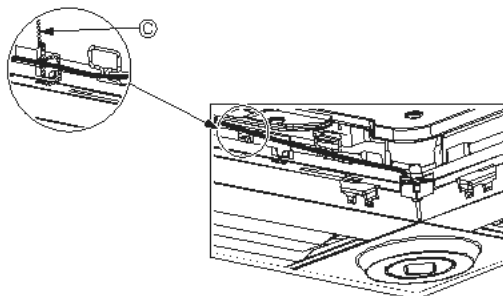

Fig. 10-12
- Secure the i-See sensor and signal receiver wires to the panel with the fastener as shown in the diagram so that there is no slack in the wires, and then cut off the excess end of the fastener. (Fig. 10-12)
- If the position of the i-See sensor was changed from the "o" position (E) to the "a" position (F), change the function settings. (Refer to page 14.)